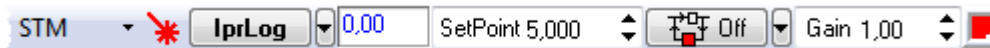

Fig. 10-6. Selecting the feedback input
2. Select the **IprLog** signal as the feedback input (see Fig. 10-6).